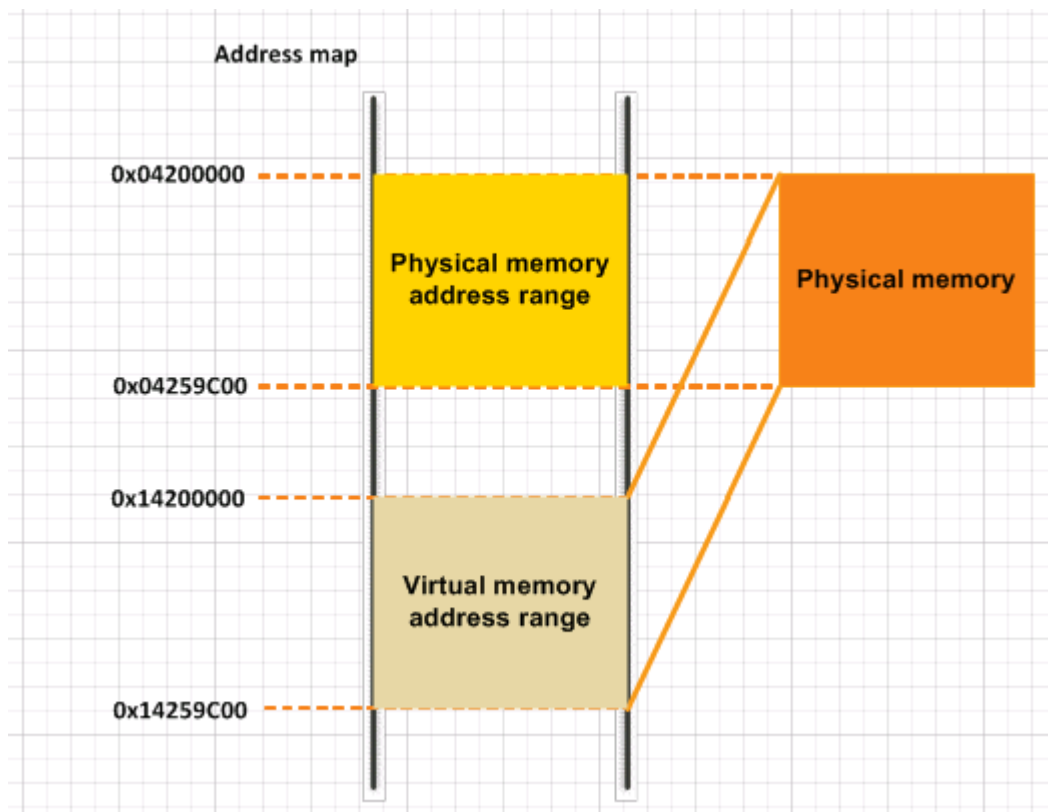

Figure 13 MT7682 virtual memory mapping
The virtual memory on the MT7682 is provided for cacheable memory and is implemented based on the memory mapping mechanism of ARM Cortex-M4. The virtual address range from 0x14200000 to 0x14259C00 is mapped to the SYSRAM address range from 0x04200000 to 0x04259C00, as shown in Figure 13. The virtual memory region (0x14200000 ~ 0x14259C00) is used as cacheable memory. All read-write (RW) data is stored in this region by default.